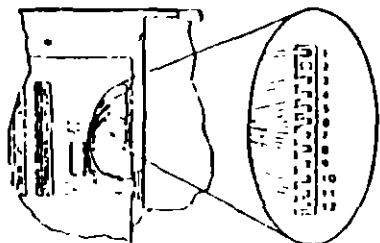

Figure 1 System Board Power Connectors
- Check for a voltage of 2.4 to 5.2 Vdc between pins 1 and 5 (ground) at the system board power supply connector, Figure 1